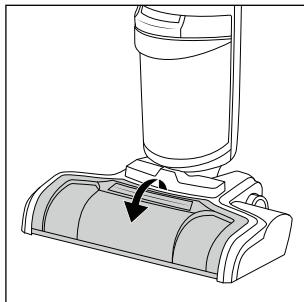

Fig. 33
- ◆ Take hold of the top of the splash guard **7** by the edge of the handle (**PULL**) and pull it forward to remove it from the foot section **3** (see fig. 33).